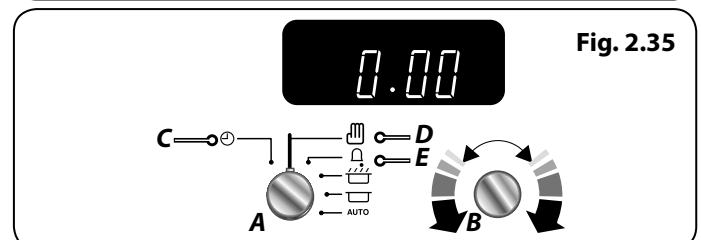

Fig. 2.35
- I. Turn the **Adjusting (B)** knob counter-clockwise or clockwise (**Fig. 2.35**).
- II. Turn either the **Timer (A)** knob to the **Clock (C)** or to the **Minute Minder (E)** setting. Return to **Manual (D)** for normal cooking mode (**Fig. 2.35**).